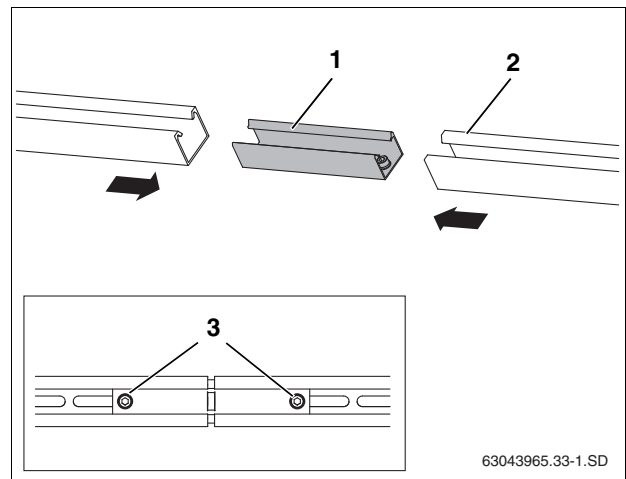

Fig. 28 Connecting horizontal rails
- Push connector (Fig. 28, [1]) as far as it will go into both rails (Fig. 28, [2]).
- To lock, tighten both installed M10 threaded studs (Fig. 28, [3]) using a size 5 Allen wrench.